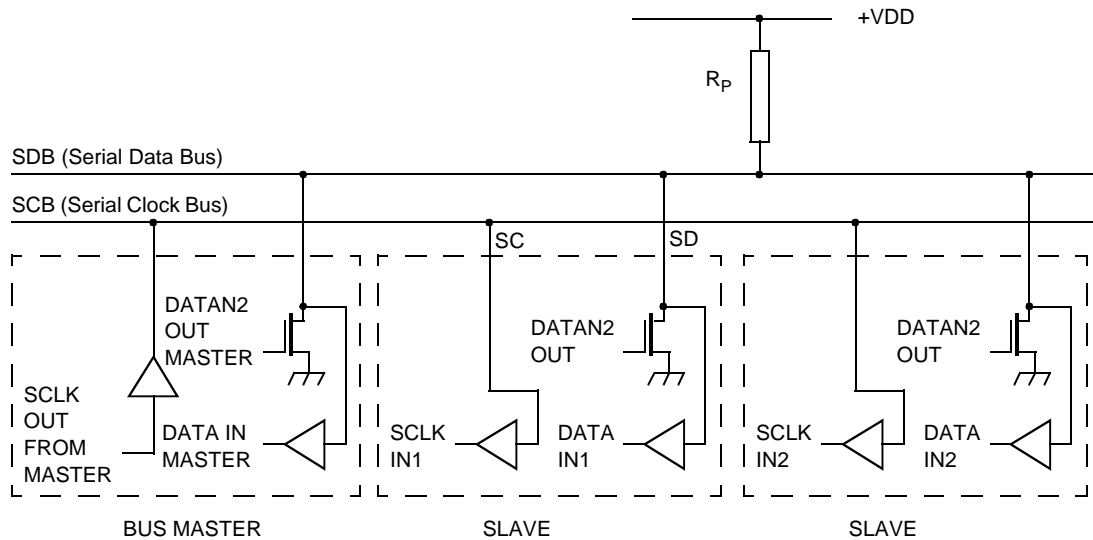

Figure 17: Connection of Devices to the Bus
The CH7002 contains a standard I²C control port, through which the control registers can be written and read. This port is comprised of a two-wire serial interface, pins SD (bi-directional) and SC, which can be connected directly to the SDB and SCB buses as shown in **Figure 17**.
The Serial Clock line (SC) is input only and is driven by the output buffer of the master device (also shown in Figure 17). The CH7002 acts as a slave, and generation of clock signals on the bus is always the responsibility of the master device. When the bus is free, both lines are HIGH. The output stages of devices connected to the bus must have an open-drain or open-collector to perform the wired-AND function. Data on the bus can be transferred up to 400 kbit/s.
The electrical specifications of the bus devices' inputs and outputs and the characteristics of the bus lines connected to them are shown in **Figure 17**. A pull-up resistor (R_P) must be connected to a 5V +/- 10% supply. The CH7002 is a device with input levels related to VDD.